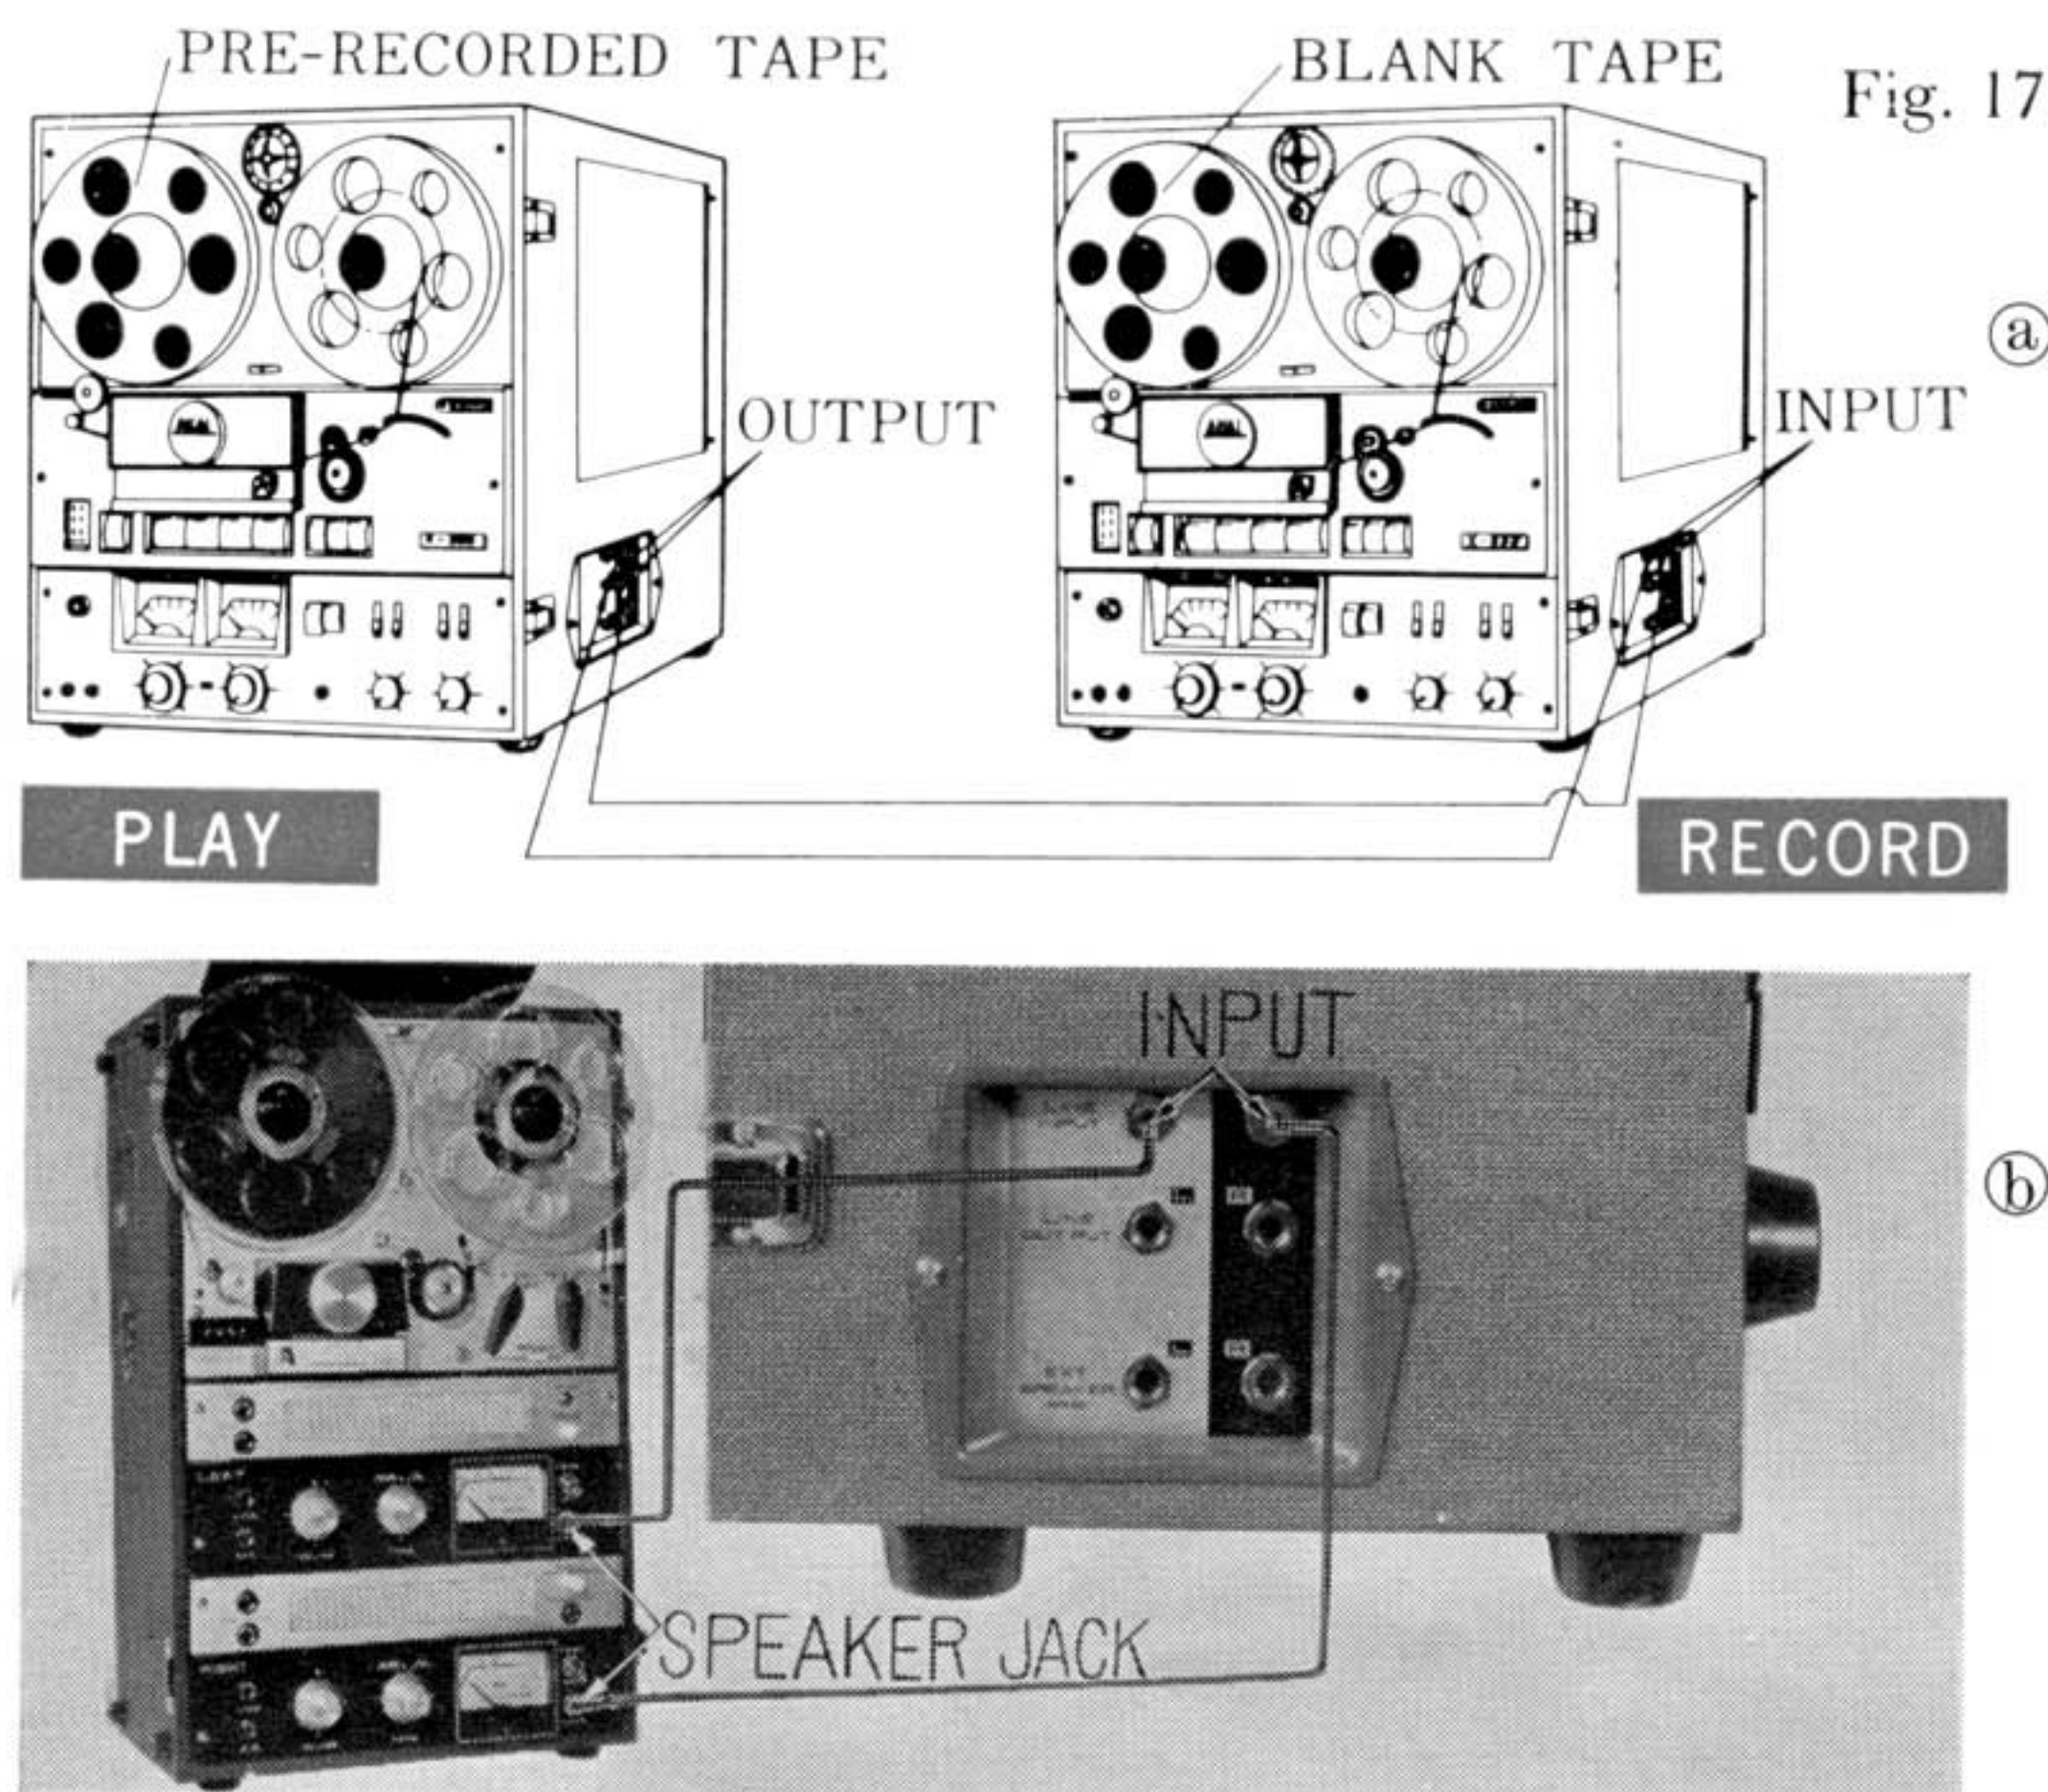

Fig. 17 **14. RECORDING FROM ANOTHER TAPE RECORDER**
If another X-355 is used, connect the **LINE OUTPUT JACKS** ⑤③, ⑤④ of the playback machine to the **LINE INPUT JACKS** ⑤①, ⑤② of the recording machine in step (G) of the recording procedure (Figure 17 a).
If one of the AKAI M-series recorders is used as a playback machine, connect its speaker jacks to the LNE INPUT JACKS ⑤1, ⑤2 of the X-355 in step (G) of the recording procedure (Figure 17 b).